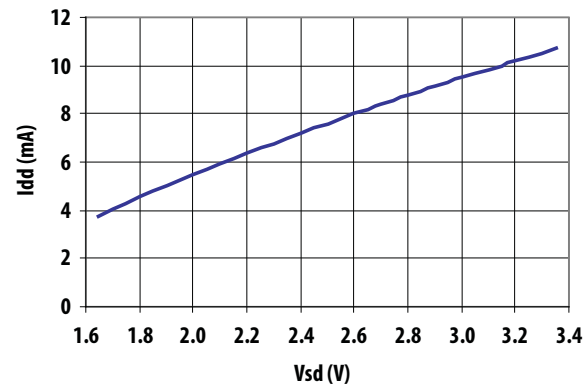

Figure 9. Idd vs. Vsd ($V_{dd} = 2.85\text{ V}$)
- The grounding regime for the ALM-1412 is critical to achieving the PCS- and Cell-Band Rejections shown in Figure 9. Please refer to the PCB Land Patterns section of this document for the exact locations of the grounding vias.